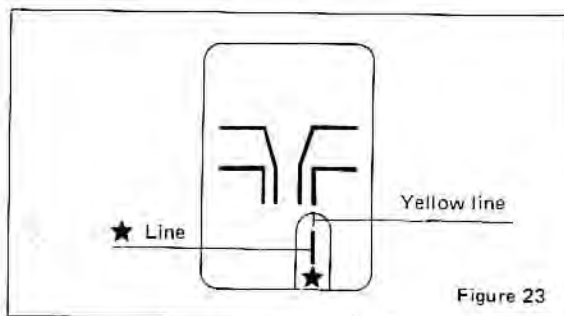

Figure 23
7. Turn the stitch width adjusting dial to align the yellow indicator line to ★ MARK LINE on stitch width indicator window on needle plate (Figure 23).
7. Turn the stitch width adjusting dial to align the yellow indicator line (Figure 23) to ★ MARK LINE on the window of the needle plate.